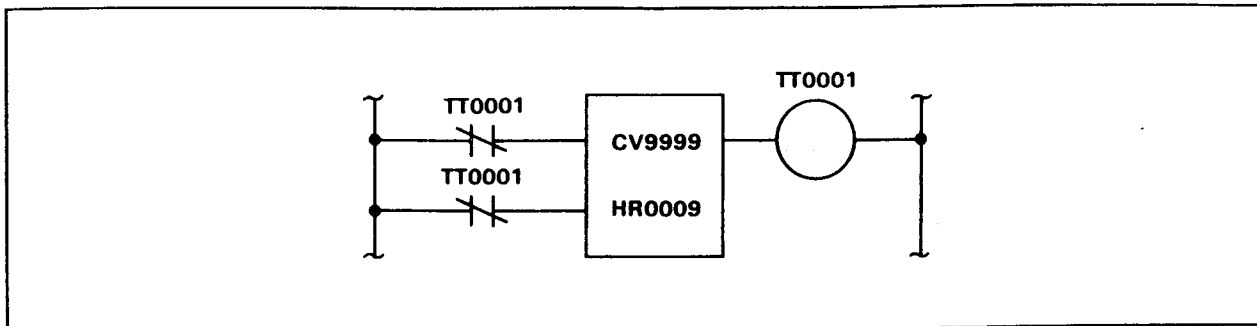

Figure 3-44. Test Program
Using the program loader, enter the test program shown in Figure 3-44 into the controller. Refer to the appropriate program loader's programming manual for instructions on programming this rung of logic.
3. Using the program loader's Monitor mode, verify that the program presently in the controller is the same as that originally entered. (See Figure 3-44.)
Using the program loader, enter the test program shown in Figure 3-44 into the controller. Refer to the appropriate program loader's programming manual for instructions on programming this line of logic.
7. Using the program loader's Monitor mode, verify that the program presently in the controller is the same as originally entered. (See Figure 3-44.) Also verify that the contents of HR0009 are identical to that recorded in step No. 4, above.
To test printer operation, enter and print a test program (see Figure 3-44 for a sample test program). Refer to the program loader's programming manual for Print instructions. After the program is completely printed, verify that it is the same as that originally entered.